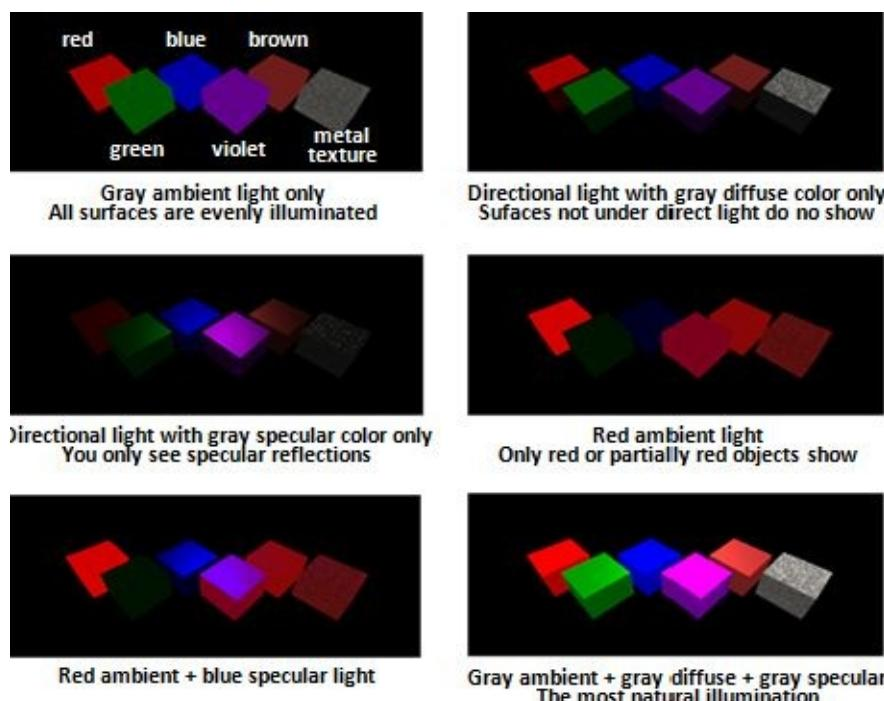

Figure 14.26 Six boxes in the light with different color components
6. Add two more lights of the **Point** type and place them nearby the road (see Figure 14.26). Set their **Diffuse** color component to *darkGoldenRod*, and reset two other components. Set the **Quadratic** attenuation to *0.0002* and the **Constant** and **Linear** attenuation to *0*. Set the lights' **Z** to *50* on the **Advanced** property page.